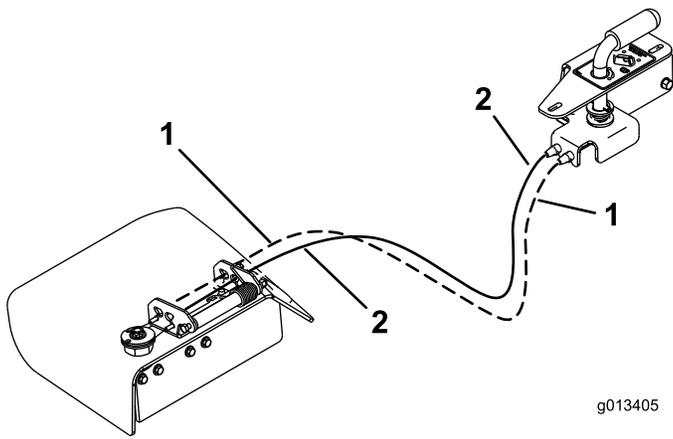

Figure 9
6. Locate the cable that is attached to the out side of the handle assembly and install this cable into the outside hole in the side discharge chute (Figure 9).